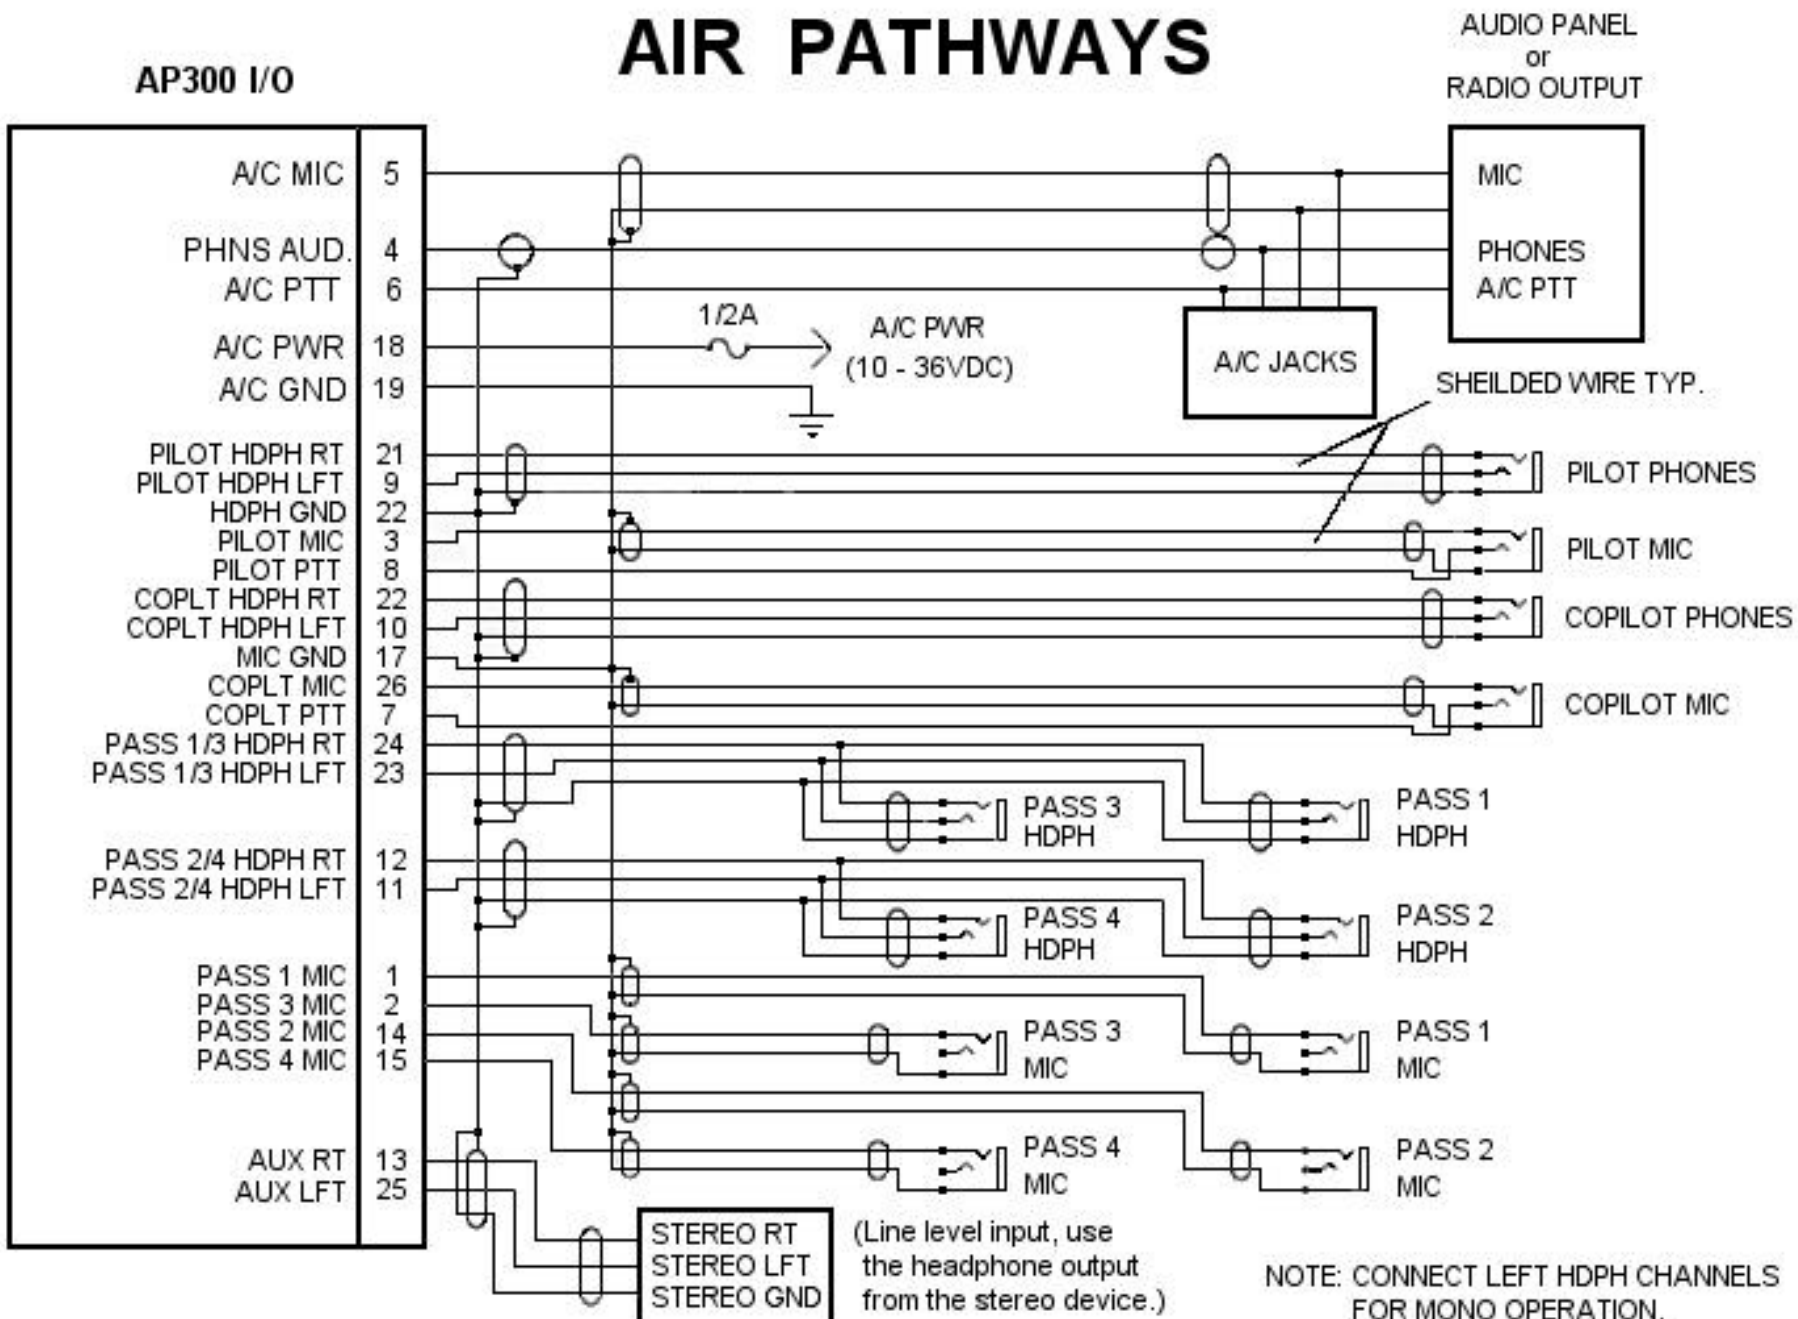

Fig. 4
- Refer to the wiring diagram (see fig. 4) and wire the aircraft as desired using shielded wire and the proper mic and headphone jacks (not supplied) for your type headsets.